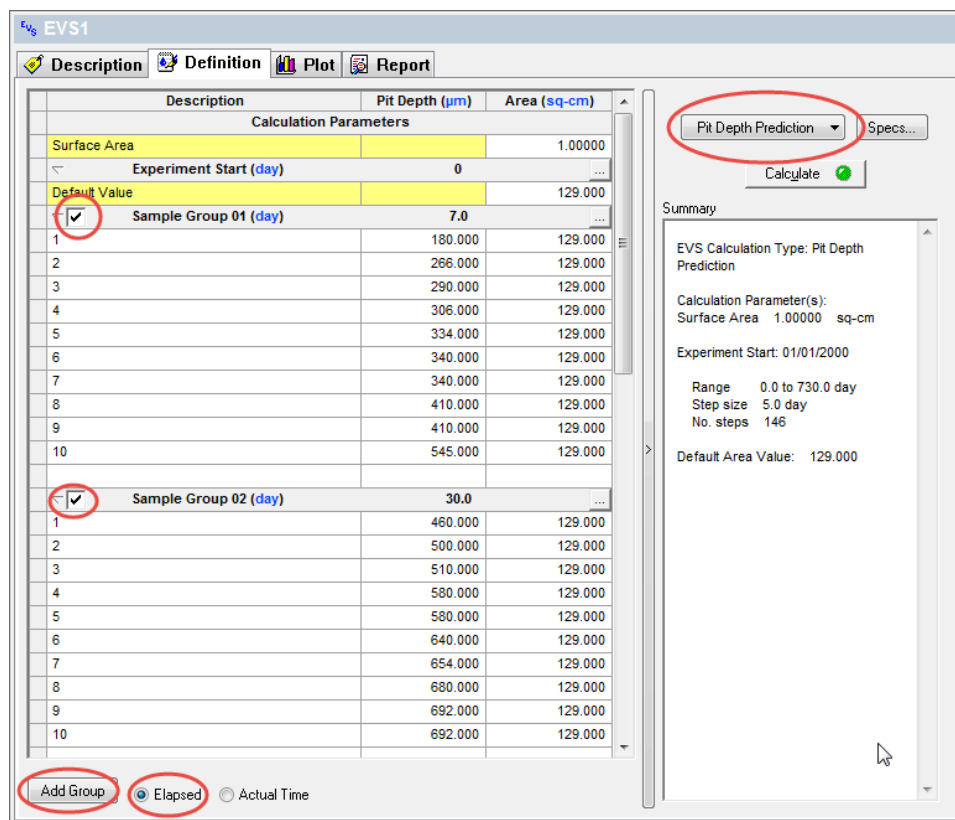

Figure 33-4: Specifying experimental data for depths of deepest pits (not completed)
After that, click on **Add Group** button (inside green oval), and in blank space type elapsed time = 30 days and insert all data from the third column for Sample Group 02. After inserting the data from Table 1 (from columns 1 and 3) the definition grid for EVS calculations should look like Figure 33-4.
- For each group, the order of samples relative depth can be arbitrary (not necessary in ascending order as in Table 1 or Figure 33-4).
- Radio button **Elapsed** (red ellipse in Figure 33-4) means the time after corrosion attack is used in calculations and namely this time is used usually in scientific publication. However, it is possible to use also Actual Time of the experiments.
We will simulate the results of Aziz's experiments assuming that only data for short-time experiments (for 1 week and 1 month) are available. To include these data into calculations we must mark the boxes (red ovals in Figure 33-4). It can be done also by using the drop-down menu for adding groups (see Figure 33-4). All others groups (Groups 03 – 05) must not be marked.